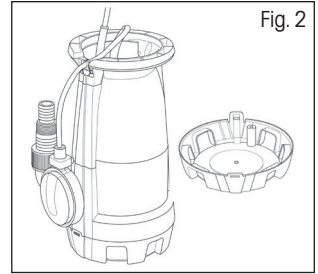

Fig. 2
1. Cover for suction of sludge water – this cover allows suction of water containing solid impurities up to 30 mm (Fig. 2).